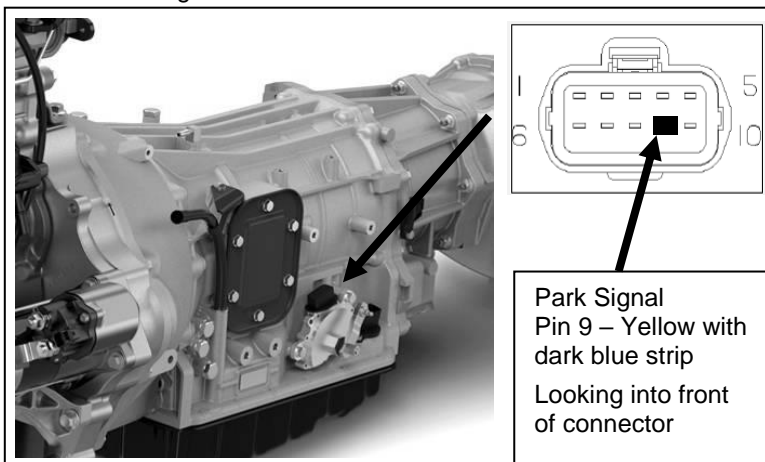

Figure 41 – Park Signal location – AS69RC
- Route the long blue wire from the throttle control to the transmission range sensor on the driver side of the transmission above the oil pan. Solder and seal the blue wire to the yellow wire with the dark blue stripe at pin 9 on the connector (Figure 41).